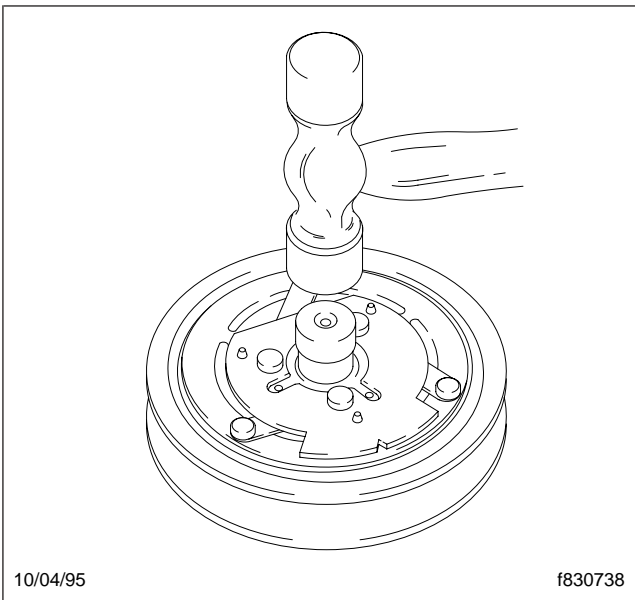

Fig. 9, Install the Drive Plate Assembly
- 3.3 Align the keyway in the drive plate assembly with the shaft key. Using a driver, and a hammer or an arbor press, drive the assembly down over the shaft until it bottoms on the shims. See Fig. 9.